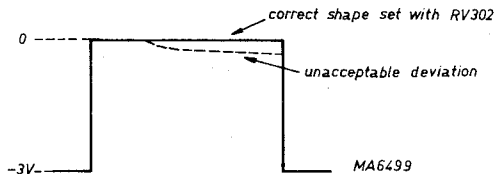

Fig. X-4. Pulse diagram
- Observe a flat pulse top on the oscilloscope screen. If required, adjust with RV301. Fig. X-4 shows unacceptable deviation.